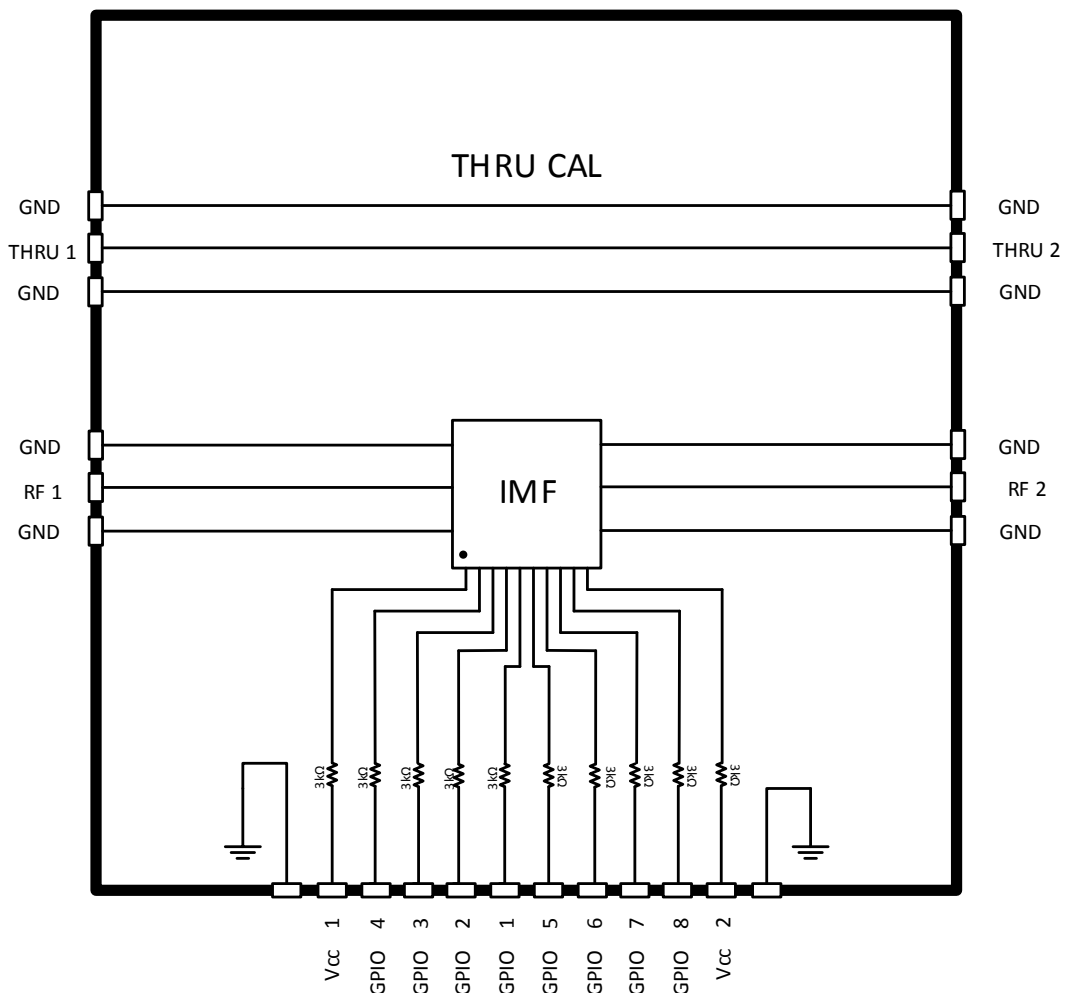
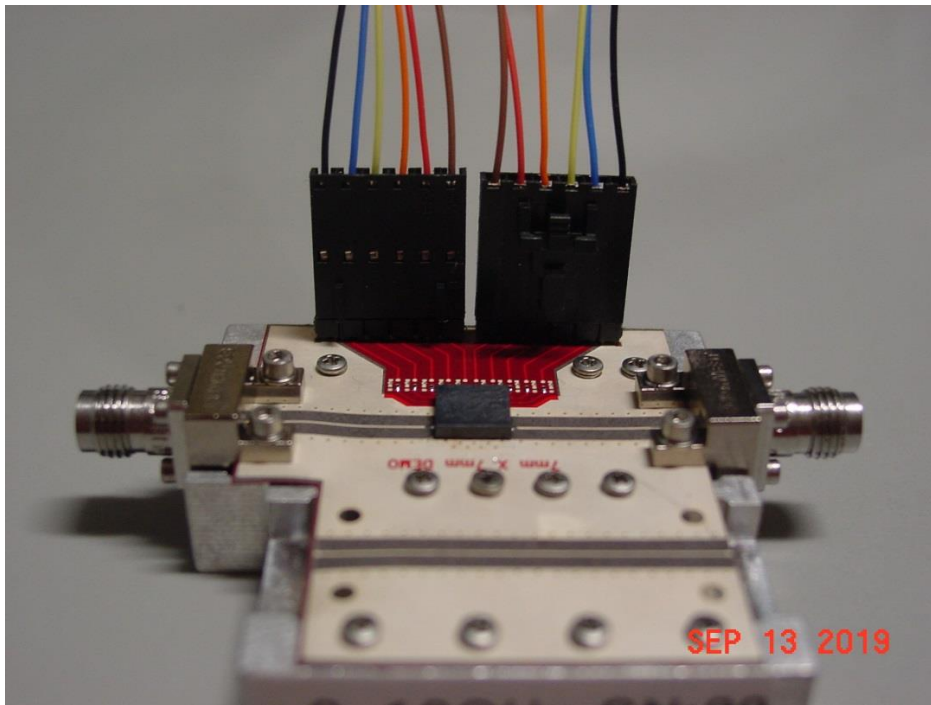

Figure 1. Demo Unit Block Diagram.
Figure 2: Setup
4.1. Refer to Figure 1, Figure 2 for all steps in section 4 and follow each step in order.